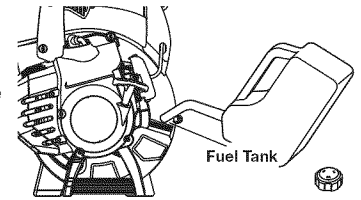

Fig. 7
1. Remove the fuel cap (Fig. 7).